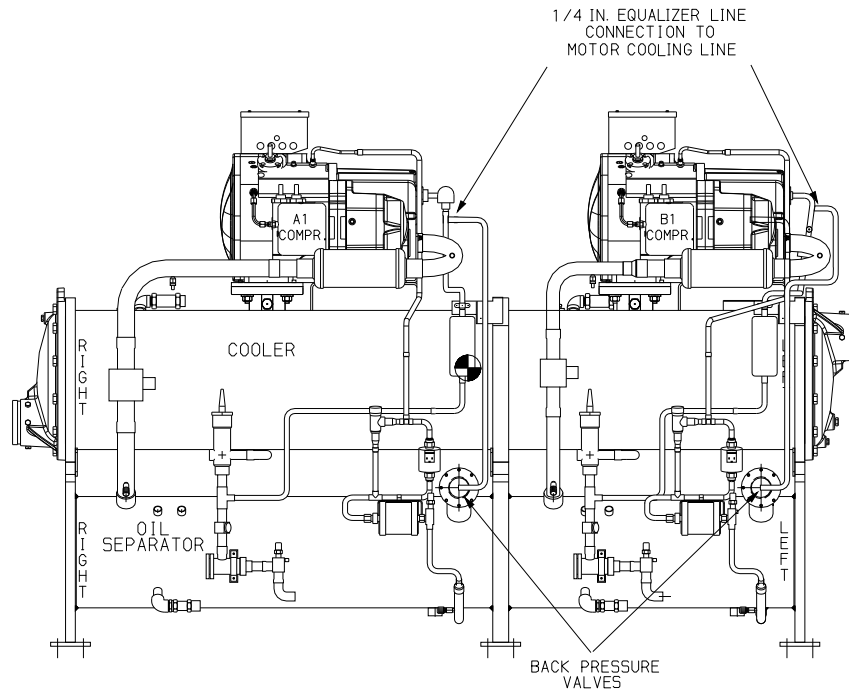

Fig. 20 — 30HXA Units Back Pressure Valve Equalizer Line Connection (076-146 Sizes Shown)
Back-Pressure Valve, 30HXA Units (See Fig. 20 and 21) — The 30HXA back-pressure valves are supplied with an integral mounting flange. The valves mount on the 30HXA oil separator. This reduces brazing when installing the discharge piping, and allows the installer to orient the valve in any desired position.
1. Be sure to remove nitrogen charge or properly recover refrigerant charge before removing the blank-off plate. Remove the blank-off plate from the mating flange on top of the oil separator by removing the screws from the flange. See Fig. 20 for location.